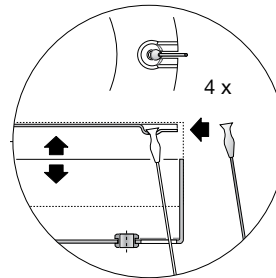

Figure 3: Steel Suspension Cables
7. Hook the ends of the 4 steel wires into the recesses of the mounting plate making sure they are seated securely. [Figure 3]